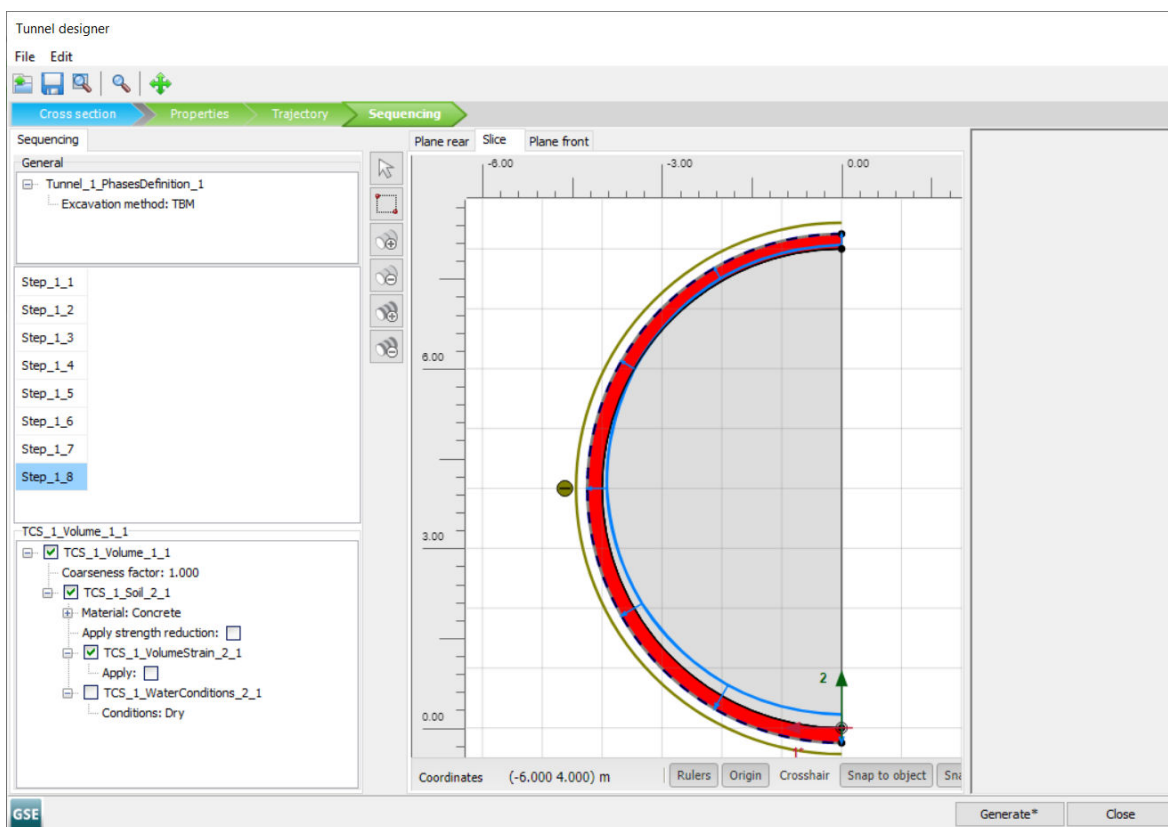

Figure 75: Slice tabsheet in the **Tunnel designer** Step_1_8
- In the **Slice** tabsheet again, select the outer volume. Activate it, click the material and select the **Concrete** option from the drop-down menu (Figure 75 (on page 102)).